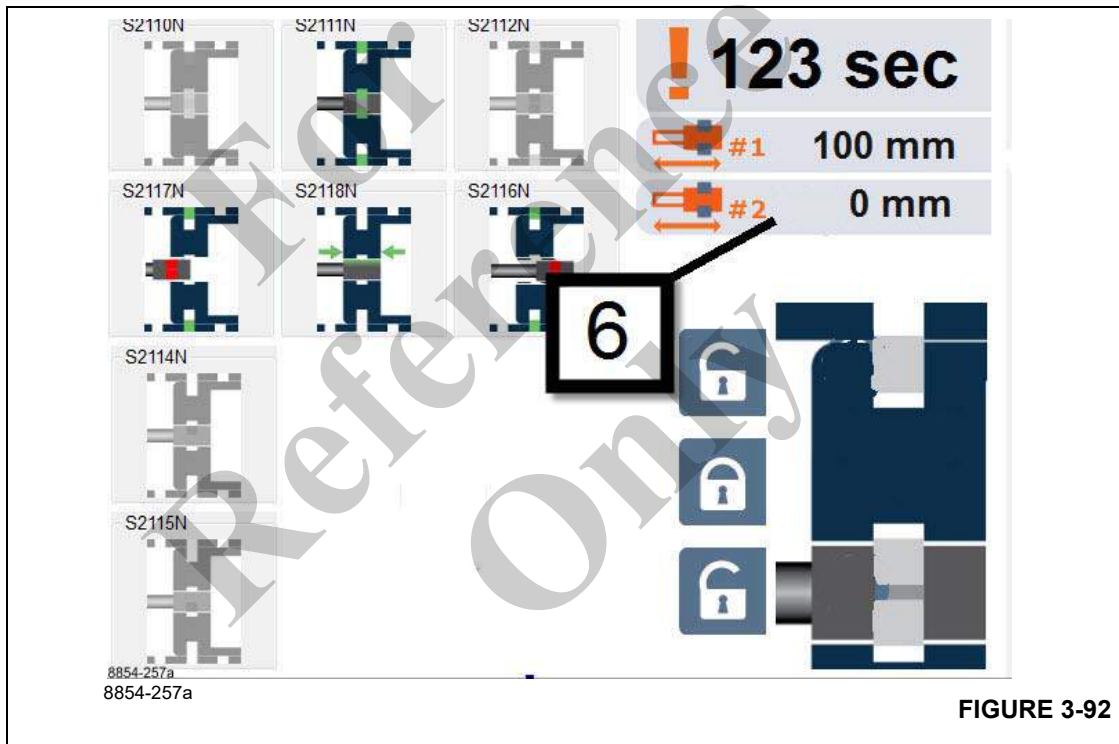

FIGURE 3-92
- If the precision length sensor for the tele cylinder does not show a reasonable value, then the second length sensing can be referred to (6), (Figure 3-92). This is typically from a length potentiometer from the power cable reel in the boom (it is separate from the precision length sensor).